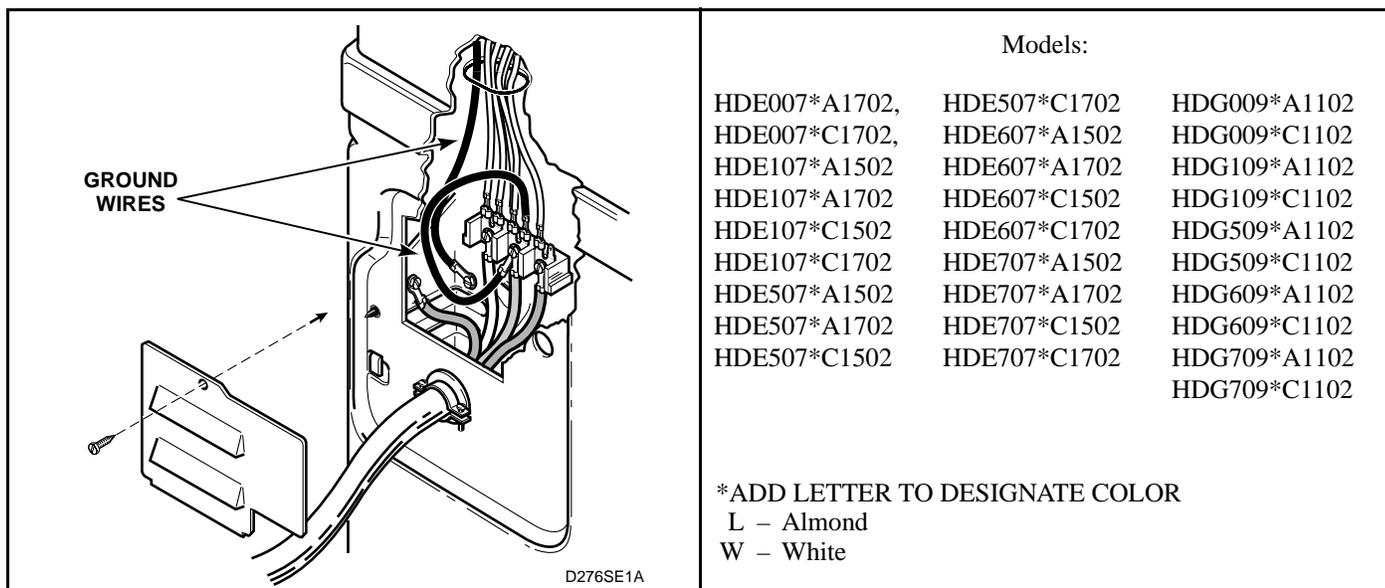

Figure 2
15. GROUND WIRES FROM TERMINAL BLOCK OR POWER CORD TO REAR BULKHEAD AND FROM REAR BULKHEAD TO CONTROL HOUSING (Figures 2 and 3).